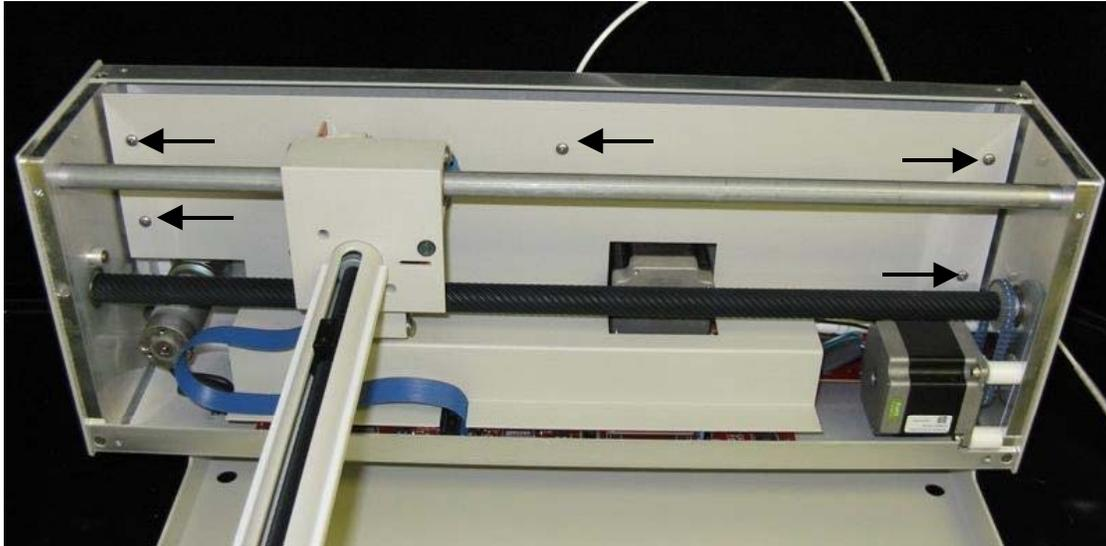

**Figure 1-8.** Front view of ASX-510 Auto Sampler showing front cover screws.
6. Next, the front cover needs to be removed. Remove the four corner screws shown in Figure 1-8.